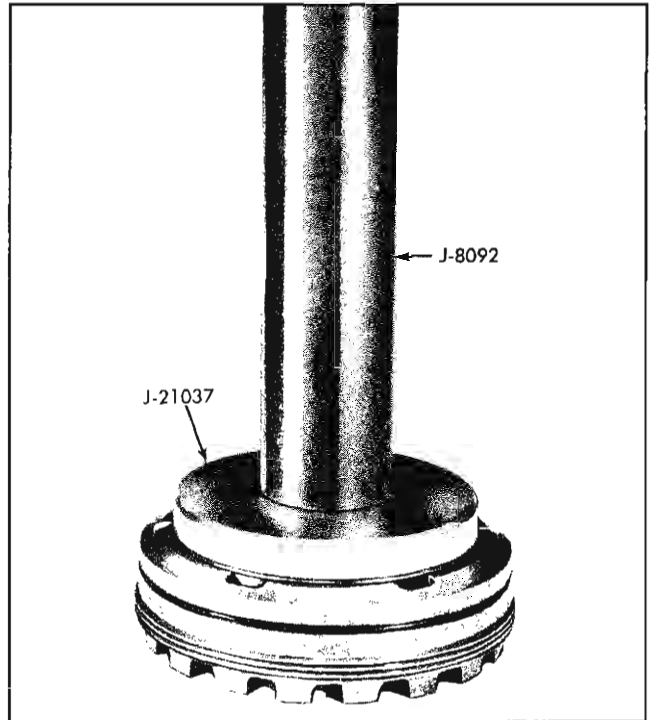

Fig. 4-56 Tool Positioned to Install Front Pinion Bearing Outer Race
1. Install front bearing race in nut using tool J-21037 with J-8092 handle (Fig. 4-56).